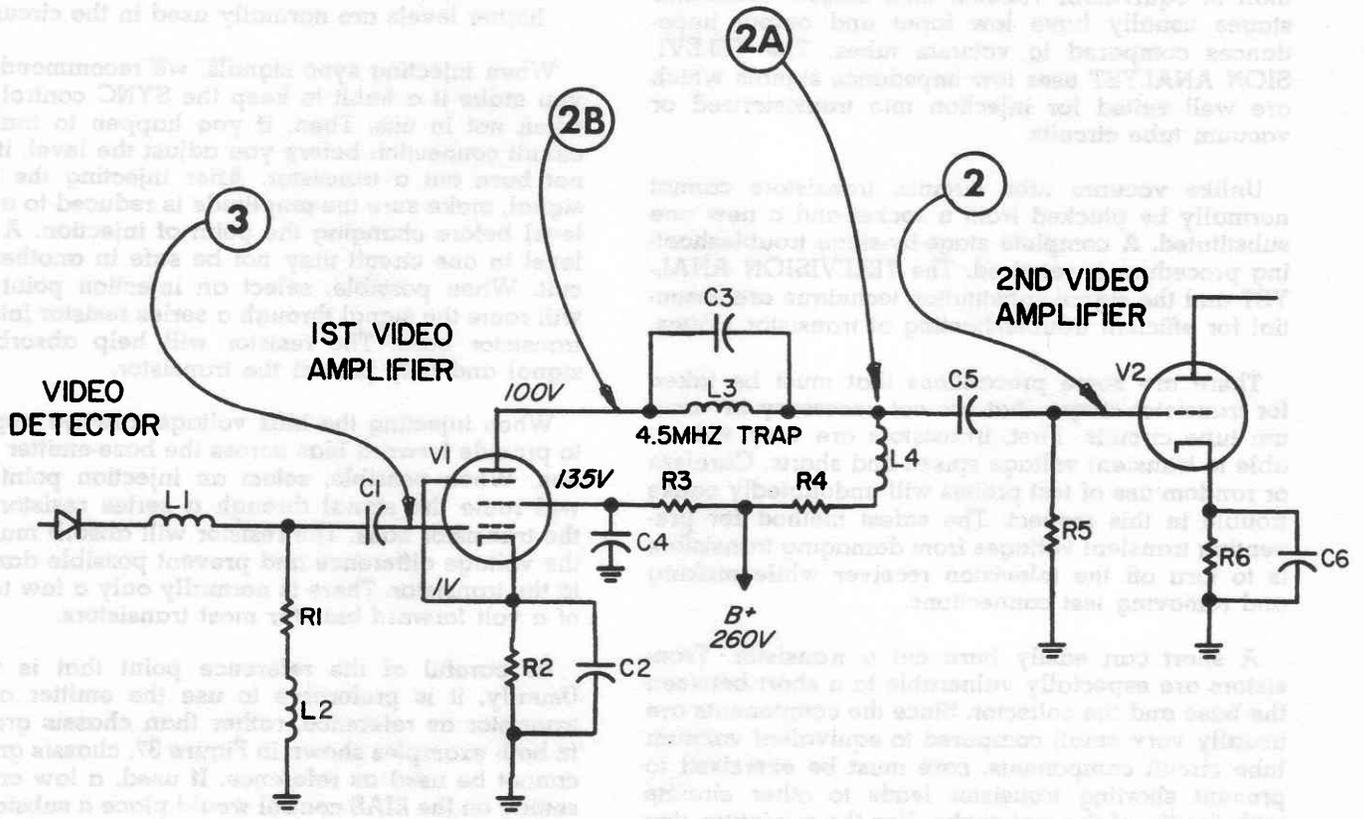

Figure 34. Schematic Diagram of Typical Video Amplifier
4. Refer to Figure 34 which is a schematic diagram of the defective stage. Inject maximum video signal at point 2A. The test pattern is again displayed. This proves that the coupling capacitor is good.